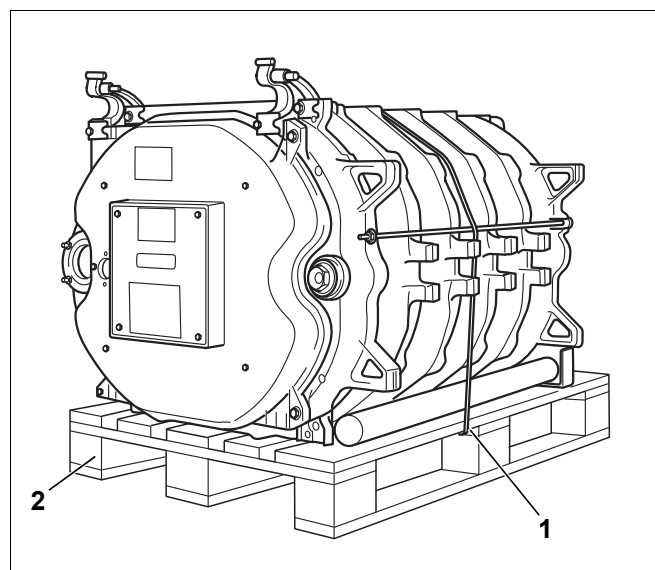

Fig. 18 Boiler block on pallet
- Cut through the securing band (→ Fig. 18, [1]).
- Remove the pallet prior to positioning the boiler (→ Fig. 18, [2]).